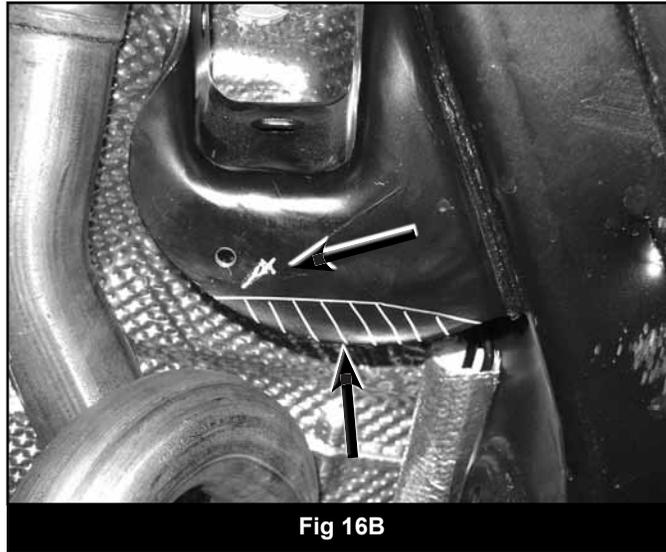

Fig 16B
38. Drill a 7/16" hole at the marks made on the factory UCA mounts. Trim along the cut line, making the bottom-rear edge straight (Fig 16B).